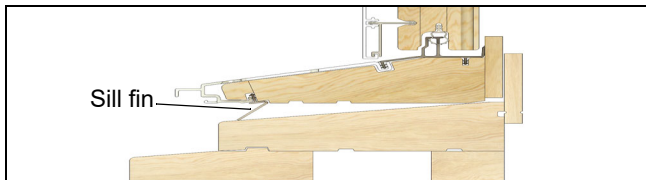

Figure 1
2. Bend sill fin forward. See Figure 1.
7. Use T20 Torx® bit and a hand tool to turn jamb adjustment screw until desired reveal is achieved. See Figure 1.